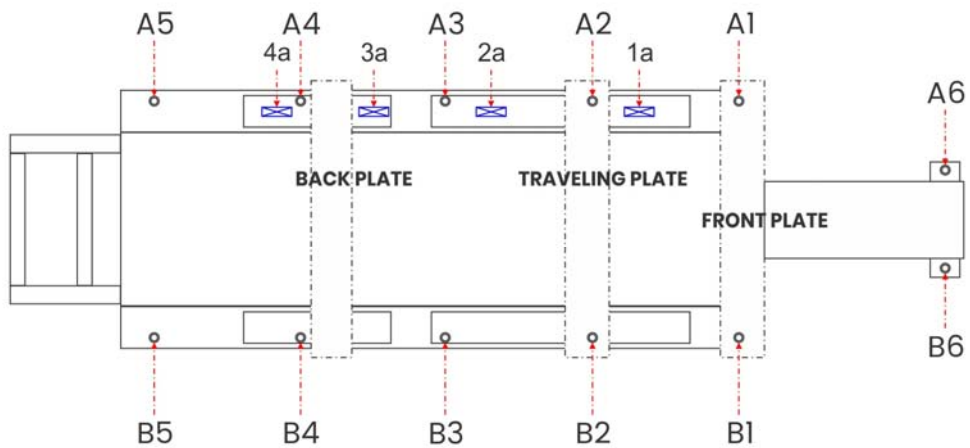

Figure 2-1
15. For example, let's assume we will start with Side-A. Place the levels in the locations as shown in Figure 2-1. Raise the isolator at the lowest mounting point (use hydraulic jacks to assist). If isolator location A2 is low, raise A2 until level readings at 1a and 2a are level. It should be possible to achieve level readings of 0.000 inches/foot.